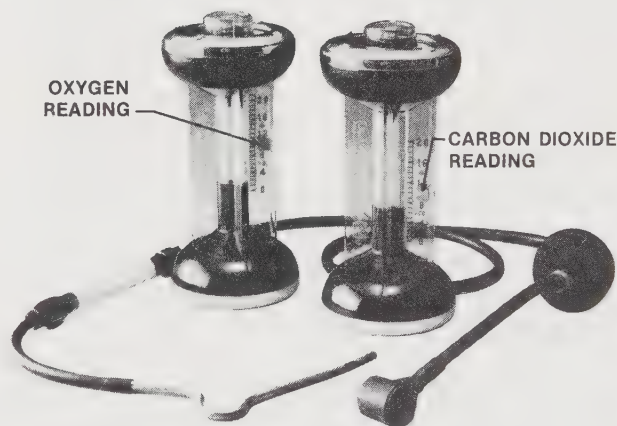

Figure 7-2. Fyrite analyzers are used to measure the percentage of oxygen and carbon dioxide in the flue gas. (Bacharach, Inc.)
Combustion Gas Analysis. Combustion gas analysis is used to determine boiler combustion efficiency. Carbon dioxide (CO_2) in flue gas indicates complete combustion. Carbon monoxide (CO) in flue gas indicates incomplete combustion. Oxygen (O) in flue gas indicates the presence of excess air. *Fyrite analyzers*® are used to measure the percentage of carbon dioxide and oxygen in the flue gas. See Figure 7-2. The following steps are taken when measuring carbon dioxide using a Fyrite analyzer.